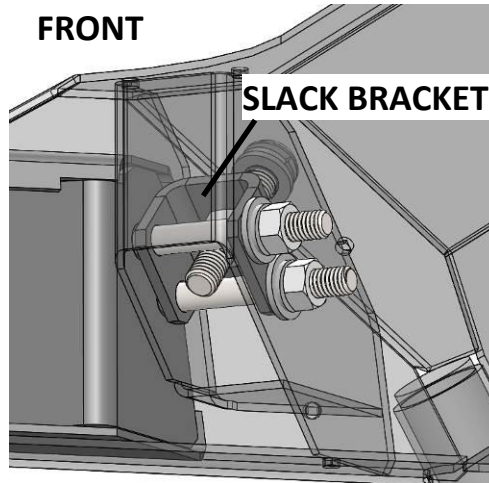

Fig. 10
- b. From the inside install the slack bracket oriented with the tabs facing away from the head of the screw and thread the Button Head screw into the welded nut just a few turns. See **Figures 10 & 11** for orientation of the Front and Rear Slack Brackets (some components have been made transparent for visibility).